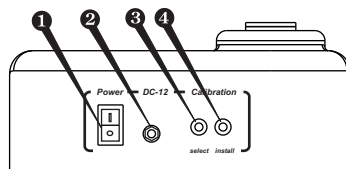

Fig.1 Rear panel
Plug the external power supply unit into the 12 V socket at the rear side of the unit (fig.1/2).
- 3.4.1. Switch ON (position **I**) the unit with the **Power** switch (Fig.1/❶) on the rear panel.
- 3.4.2. Press the **Select** button (fig.1/❷) on the rear panel (use a thin pin of maximum diameter 2 mm for pressing the **Select** and **Install** buttons). A flashing "0.5" indication will be shown on the display, showing that the unit is ready to save calibrations value of the first point 0.5 McF.
- 3.4.4. Press the **Install** button using a pin (fig.1/❹). First point "0.5" will be saved in the unit memory and the next calibration value will be displayed (flashing 1.0 indication will be displayed).
- 4.2. Switch ON the unit using the Power switch (Fig. 1/●) on the rear panel (position I).